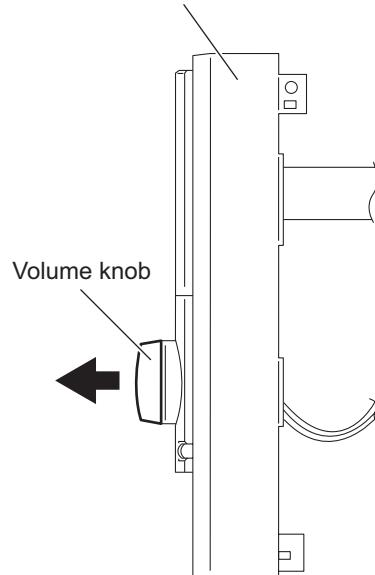

Fig.25
(See Figs.25 and 26)
- (1) From the front side of the front panel assembly, pull out the volume knob in to the direction of the arrow. (See Fig.25.)